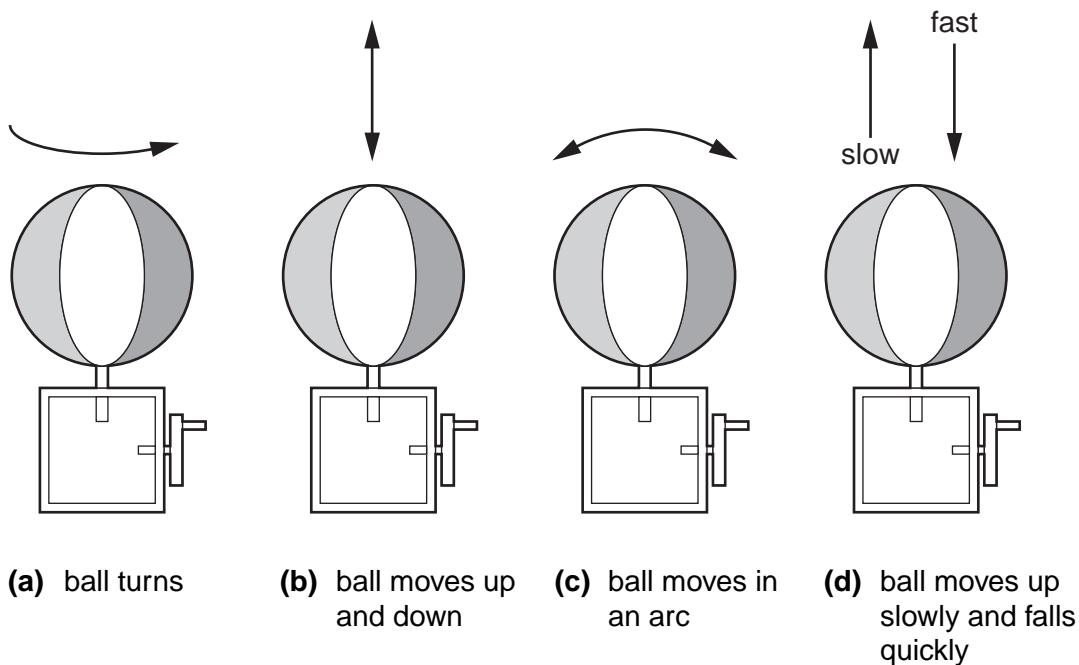

Fig. 3
- 4 Fig. 3 shows designs of simple mechanical toys operated by turning the handle on the side.